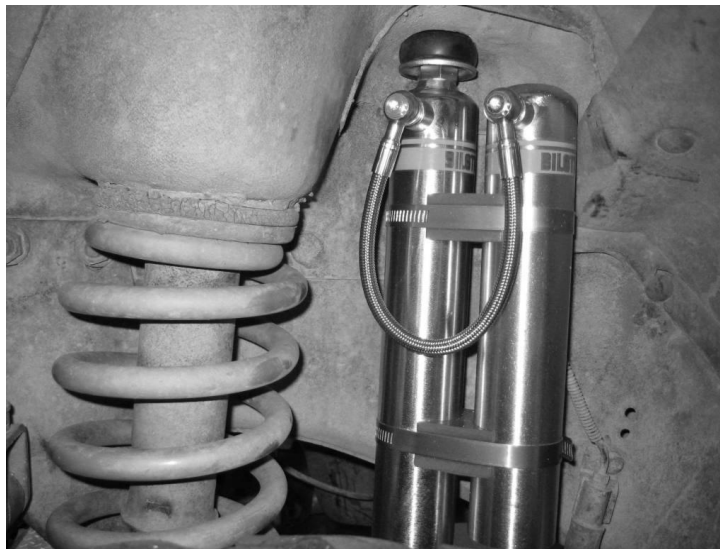

Figure 1. front driver side
- B. Before installing the shock/reservoir assemblies on the vehicle, use the supplied "piggyback" hardware to mount each reservoir to its shock body. Each reservoir is mounted using two polyurethane isolator blocks and two steel hose clamps. Please note that the position of each reservoir relative to its shock body is different for each corner of the vehicle. These positions are depicted in Figures 1 and 2. The hose fittings are designed to swivel and will allow the reservoir and hose to be easily moved.
- H. After installing the stem hardware, orient the front shocks as depicted in Figures 1 & 2.